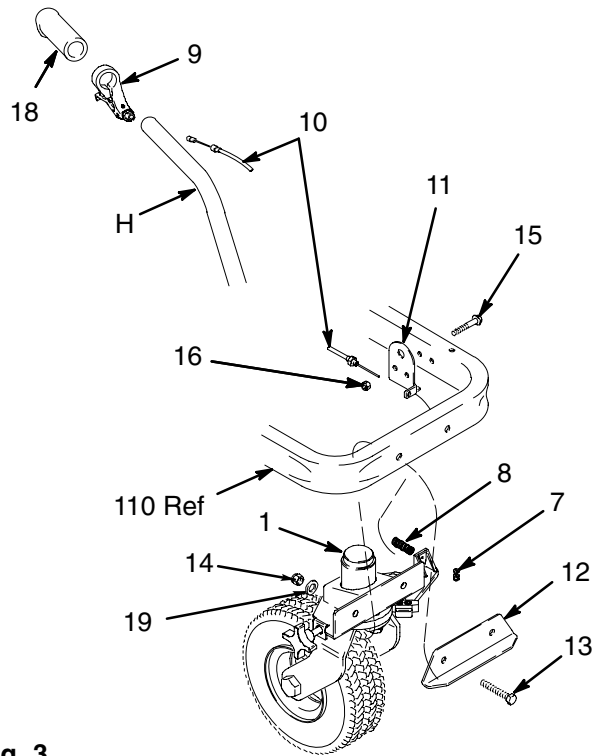
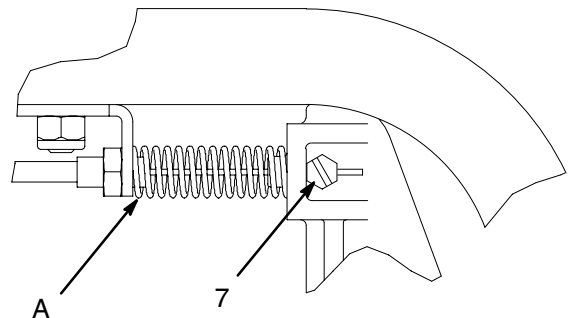

Fig. 3
Fig. 4 8835A
- 3 . Fig. 3. Mount cable bracket (11) on right side of cart (110), as viewed from front, with two flange screws (15) and two lock nuts (16).
- 4 . Slide actuator lever (9) on cart handle (H) and tighten. Install handle grip (18). Replace other handle grip if needed.
- 5 . Insert two cap screws (13) into front caster bracket (12) and mount on front of cart (110).
- 6 . Assemble swivel caster (1) to cart (110) and cap screws (13) extending thru cart. Fasten with two lock nuts (14) and washers (19) and tighten.
- 7 . Install one end of cable (10) in actuator lever (9).
- 8 . Route cable (10) from actuator lever (9) down handle and between cart base (110) and motor mount plate (108) to swivel caster (1). Fasten cable to cable bracket using nut provided with cable.
- 9 . Install compression spring (8) over cable wire and in front of caster wheel (1).
- 10 . Fig. 4. Install wire stop (7) on cable wire (10) and finger tighten wire stop screw.
- 1 . Fig. 4. Make sure cable is routed between the top of sprayer frame and underneath the motor mount plate.
- 2 . Check that cable is snug and cable nut (A) under spring is tight. Extend cable wire and draw tight in wire stop (7). Tighten wire stop screw.